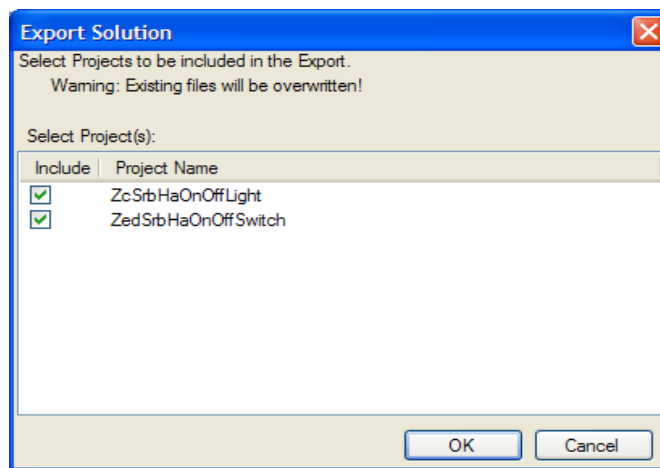

Figure 3-12. Export BeeKit Project Solution Window
1. From the Solution menu, select Export Solution. BeeKit verifies the internal consistency of the configuration, looking for such errors as two endpoints with the same number. If the verification succeeds, the window that opens will display all the created devices, each with a checked box as shown in Figure 3-12.